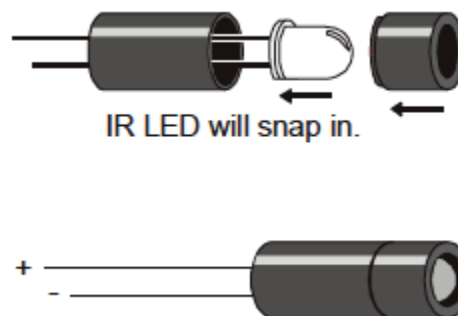

Figure 25: Assembling the infrared detector.
1. Insert the infrared LED into the shield assembly as shown in Figure 25.